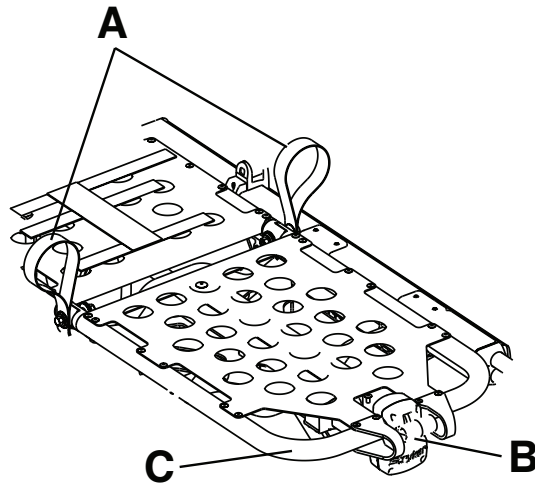

Figure 20 – Gatch
To lower the footrest, lift the frame and lift up on the footrest release handle (B) until the frame releases the support bracket (Figure 20). Lower the footrest until flat.
1. Lift either of the red lifting loops (A) until the knee Gatch is in the highest position (Figure 20).